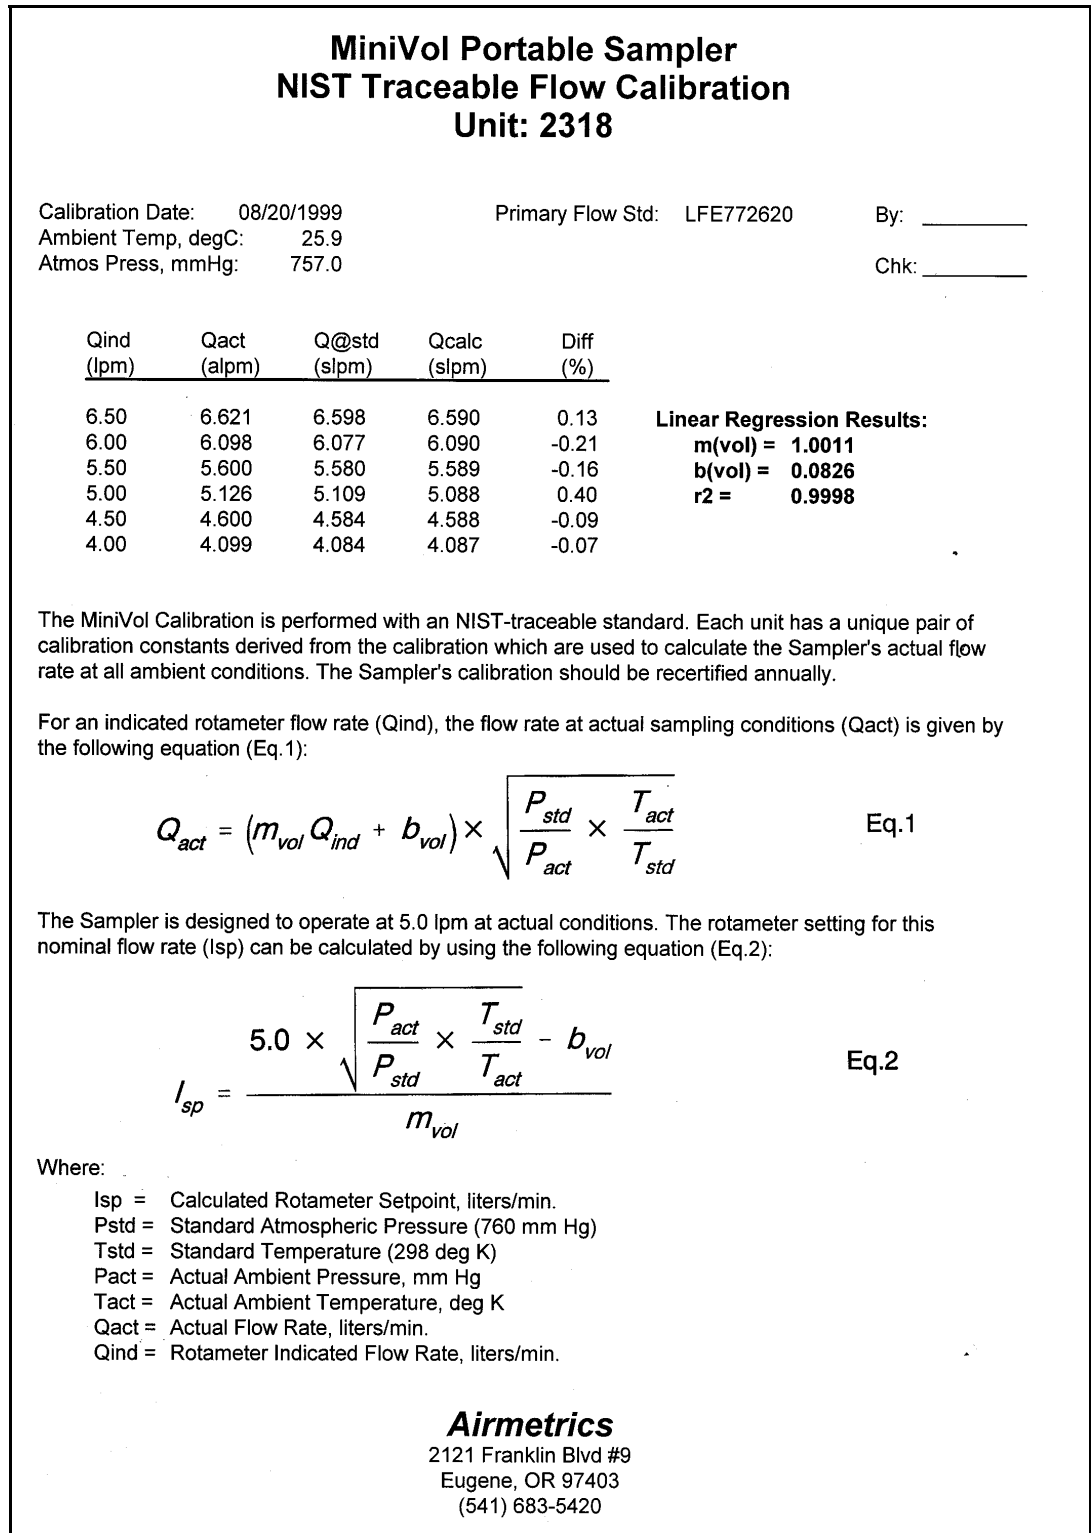

Figure A.1. Portable Sampler Calibration Output
Figure A.1 shows the results of a typical MiniVol calibration.
The columns in the table in Figure A.1 are defined as:
The **Linear Regression Results** in Figure A.1 shows the results of the best fit line of Q_{ind} (independent) to Q_{@std} (dependent) variables:
The variance (**r²**) is also listed in Figure A.1.
- the sampler's calibration slope, m_{vol} , and intercept, b_{vol} . This information is supplied to you on the "MiniVol Portable Sampler NIST Traceable Flow Calibration" that came with your sampler (Figure A.1);
To calculate the PM concentration for a sample taken with the MiniVol sampler, the volume of air that passed through the filter at standard conditions, V_{std} , or at ambient conditions, V_{amb} , must be calculated. This is most easily done in a multi-step procedure (the example that follows uses Sampler 2318 whose calibration sheet is shown in Figure A.1):